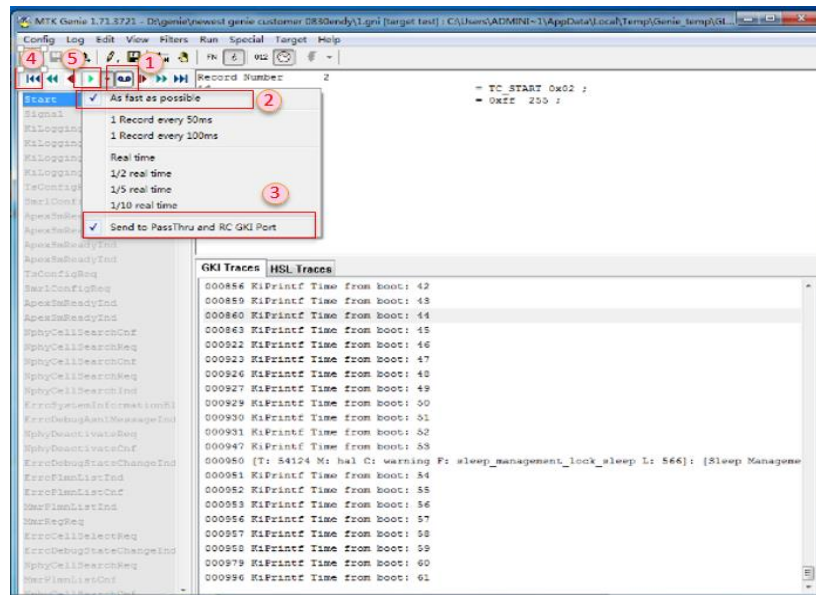

Figure 41. The steps of playback log
- 5) Click the play button . See Figure 41.